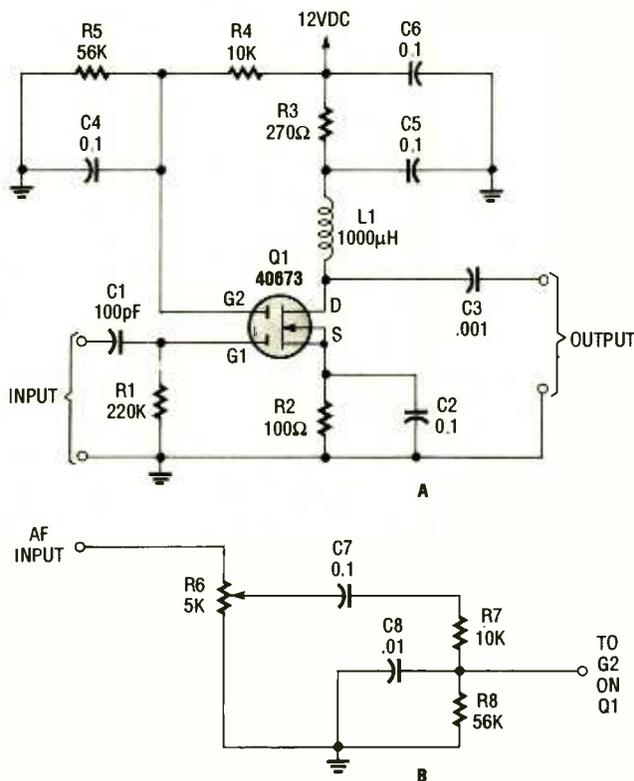

Fig. 4. The gain of the buffer-amplifier circuit in A can be amplitude modulated by replacing the components going to gate 2 with the circuit in B.
HF/VHF Buffer Amplifier. A buffer amplifier is used to isolate the output of the oscillator from circuits that follow it along the signal path. Variations in the load of an oscillator can shift its frequency, so a buffer is used to prevent that problem. Figure 4 shows a circuit for a buffer amplifier that can be used in the low-frequency (LF), high-frequency (HF), and lower end of the VHF ranges.
a tapped inductor (T1) in its feedback network. The transformer used for this purpose is a standard 455-kHz IF transformer. The transformer has a tapped primary that is used to match the low collector impedance of bipolar- (PNP or NPN) transistor amplifiers, but we can press that tapped LC-tank circuit into service as a Hartley oscillator. The secondary of the transformer forms a handy output port to pass the 455-kHz signal to the buffer stage (see Fig. 4 and discussion above for a description of that portion of the circuit).